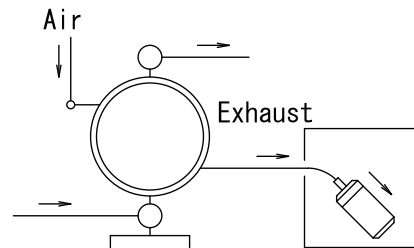

Fig. 3.2
*Exhaust should be directed outside, not into the fluid in which the pump is submerged. For information on how to arrange the exhaust, see NOTE: Arranging outside exhaust and Fig.3.2 below.